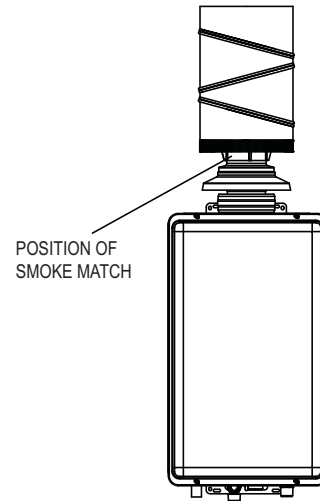

Figure 6 - Position of smoke match
c) After 10 minutes of operation, place a smoke match or suitable smoke generating device under the *draught diverter* of the common flue insert terminal as shown in Figure 6. The smoke should get drawn into the common flue insert terminal at this point confirming there is no spillage of *combustion products* into the room from the flue system.